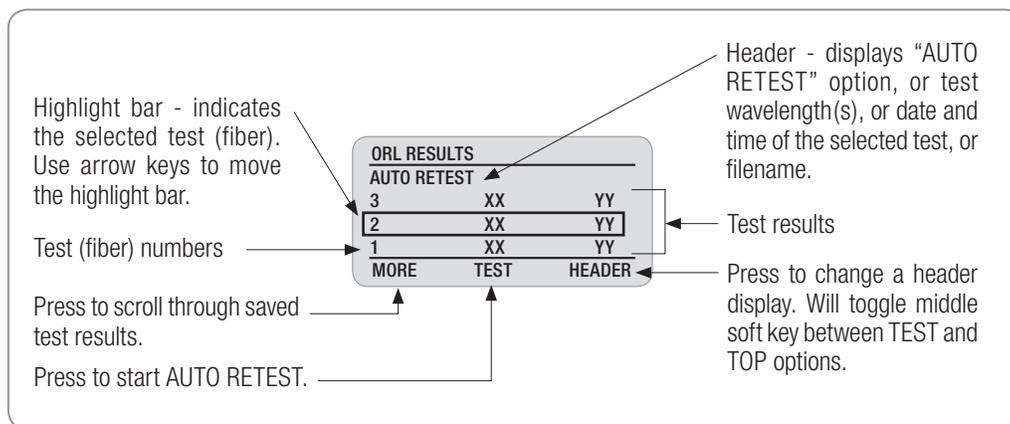

Figure 4-6. Reviewing Saved Test Results.
- 1 From the MAIN MENU screen, highlight and SELECT the REVIEW RESULTS option to access the ORL RESULTS screen (Figure 4-6).